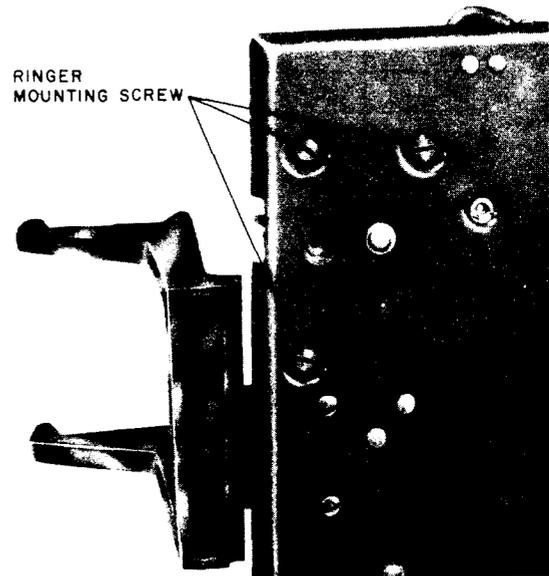

Fig. 5—Location of Mounting Screws for N1A Ringer
- (1) Remove housing.
- (2) Loosen dial mounting plate and move to left.
- (3) Disconnect ringer leads.
- (4) Remove 3 ringer mounting screws from underside of baseplate (Fig. 5).
(5) Lift out ringer.